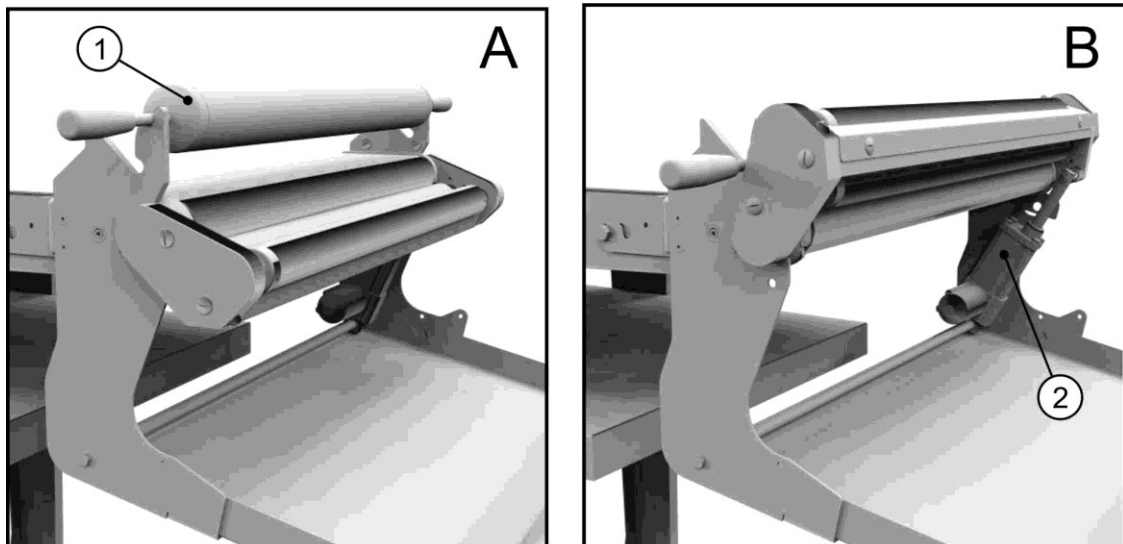

Figure 15
While the dough is being processed, the dough reeler must be in the rest position A (as illustrated in Figure 15), and the rolling pin must rest on its support Ref. 1.
- At the last programmed step, the actuator rotates the dough reeler upwards to its work position, Ref. 2 Figure 15, and the rolling pin comes down onto the table
- Once the rolling operation has been completed, after a few seconds, the system moves the dough reeler to its rest position A (Figure 15)